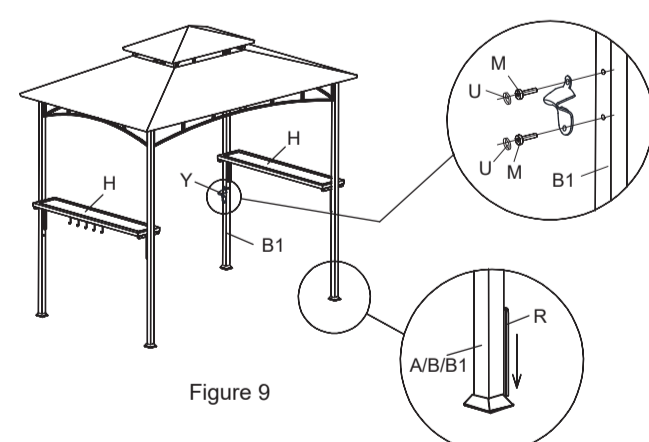

Figure 9
Fixed the bottom hole of each of four Pillars (A/B/B1) to a solid surface, ground, patio, deck etc. by using the Ground Stake (R). Repeat this step to attach the shelves at each of the four corners as shown in Figure 9.